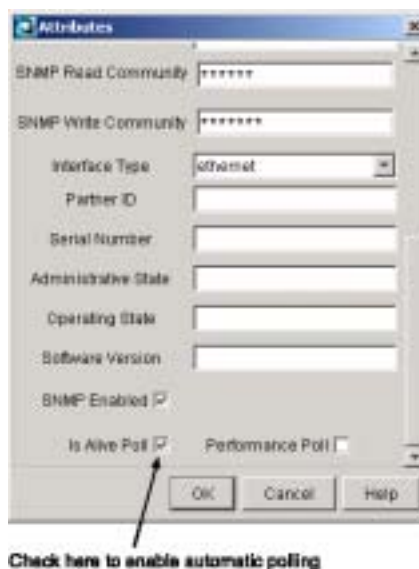

Figure 23. Attributes Screen with “Is Alive” Polling Enabled
- b. Select **Attributes** from the menu. When the Attributes screen appears, click the **Is Alive Poll** box at the bottom of the screen to activate polling (see Figure 23).